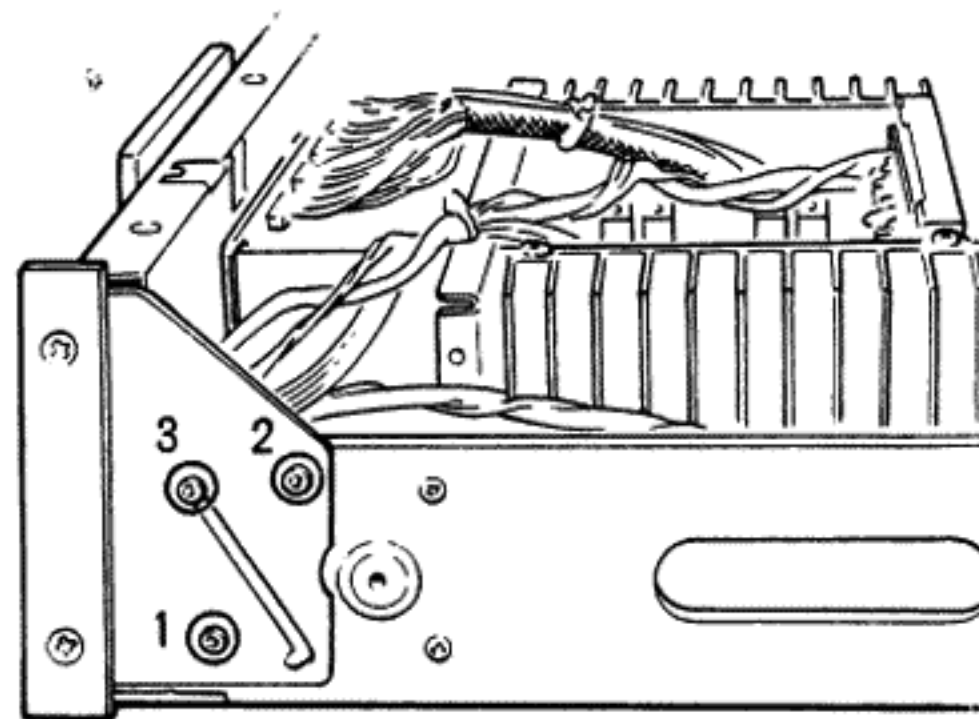

Fig. 7
- Remove screws ① and ② in Fig. 7.
- Remove screws ① through ③ in Fig. 7 from both left and right sides and remove the sub-chassis.